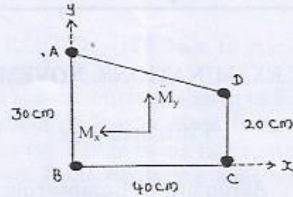

Fig.11(a)
11. (a) A box beam of 50cm length is subjected to loads  $M_x = 8 \text{ kN}$  and  $M_y = 25 \text{ kN}$  as shown in Fig. 11(a). Area of each stringer is  $2 \text{ cm}^2$ . Assume the skin is ineffective in bending. Find the bending stress in the stringers.